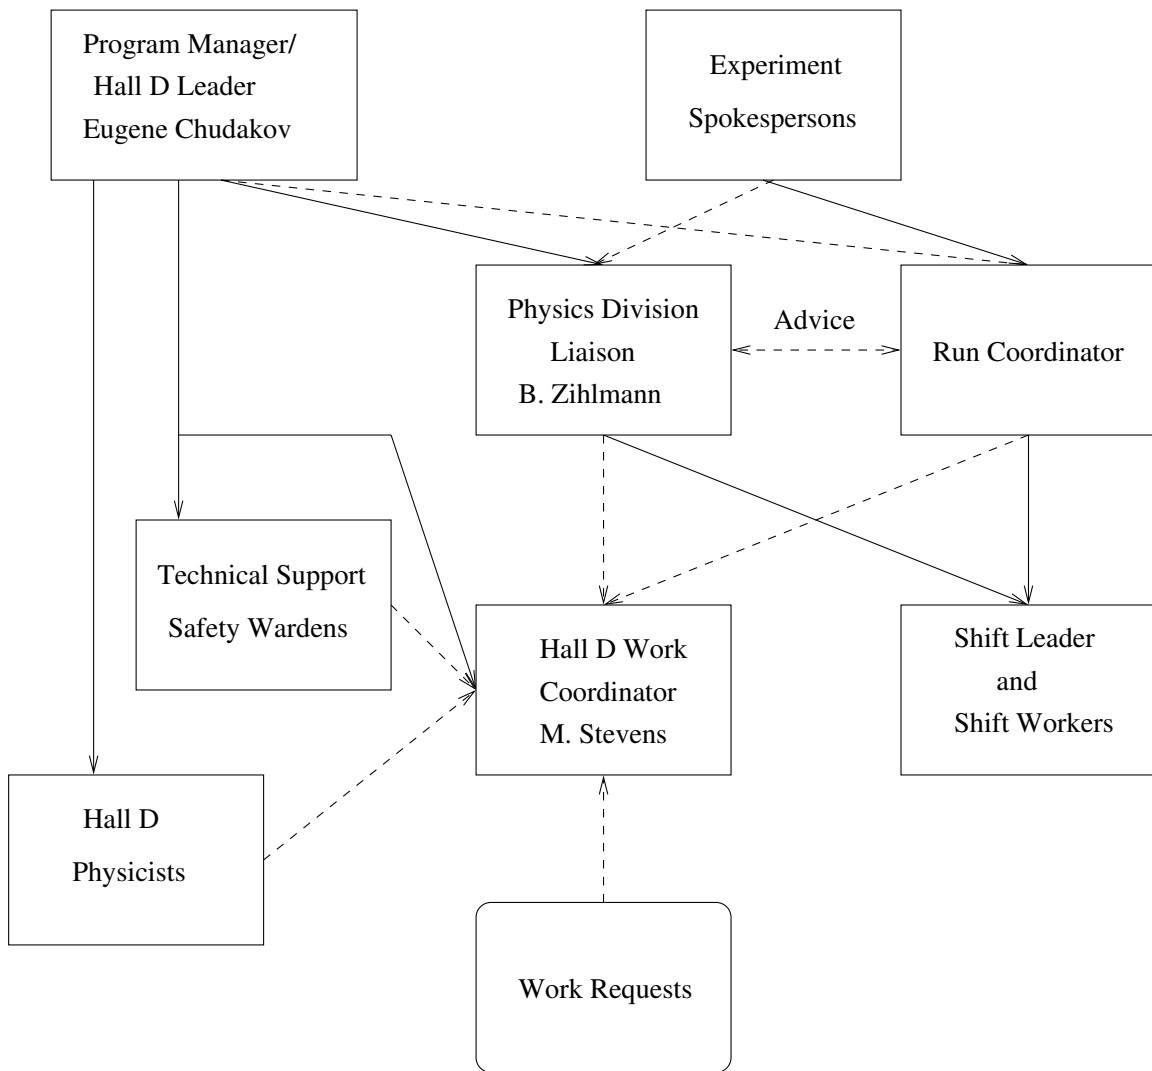

Figure 1: Functional Organization of the Hall D Team. Dashed lines indicate information flow, solid lines indicate responsibility.
- Figure 1: Change T. Carstens to M. Stevens as work coordinator
The operation of the experiment is directed by the Spokespersons and the Hall Leader, Eugene Chudakov. An organization chart for the experiment is found in Figure 1.